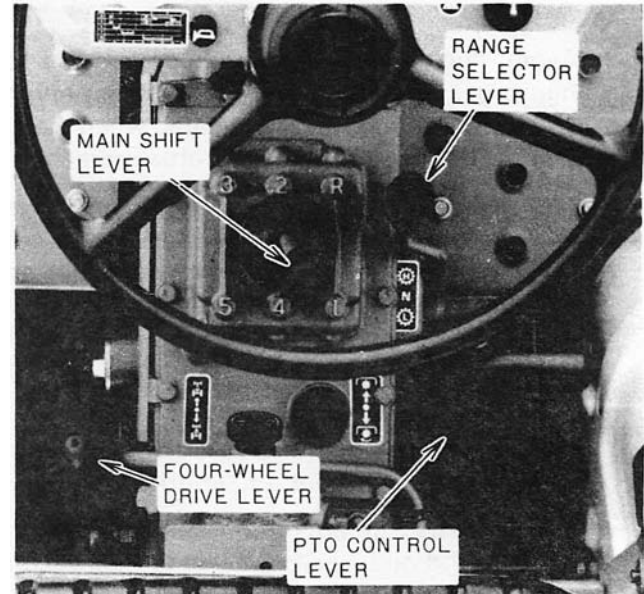

Figure 13 — Transmission Controls and Shift Pattern
The transmission operates through the use of a clutch pedal, a main shift lever, and a range selector lever. Figure 13 illustrates the pedal and levers
The transmission PTO is controlled through a lever shown in Figure 13. The transmission PTO can be engaged, operated, and disengaged as described under "POWER TAKE-OFF OPERATION."
- Disengage the PTO with the PTO control lever, Figure 13.
3. With the transmission in neutral, depress the clutch pedal completely, then engage the PTO by moving the PTO control lever, Figure 13, up or rearward.